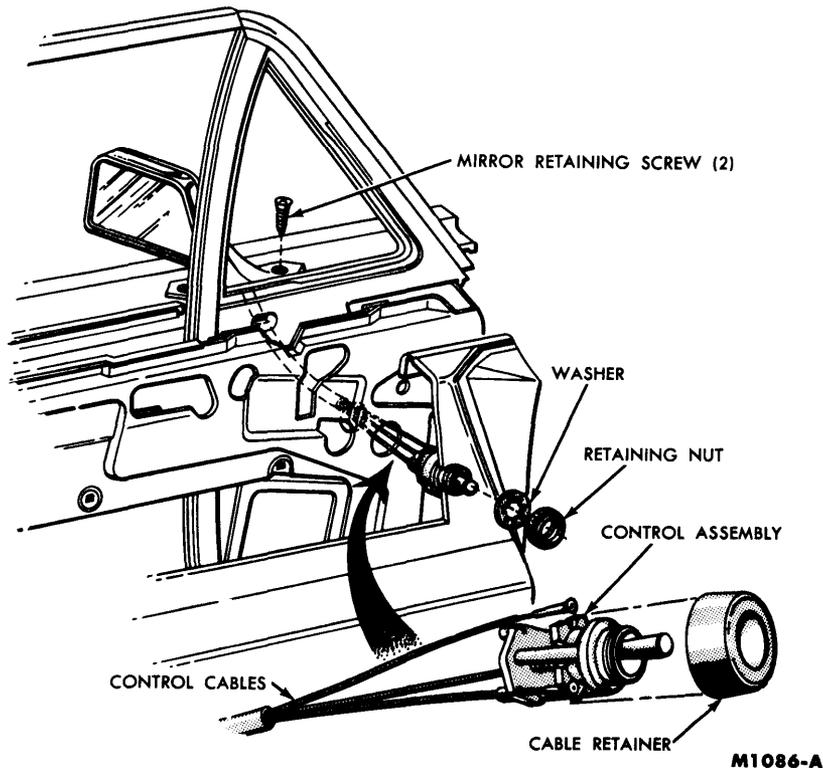

FIG. 72—Exterior Remote Control Rear View Mirror—Typical
1. Remove the mirror control retaining nut and washer from the control (Fig. 72).